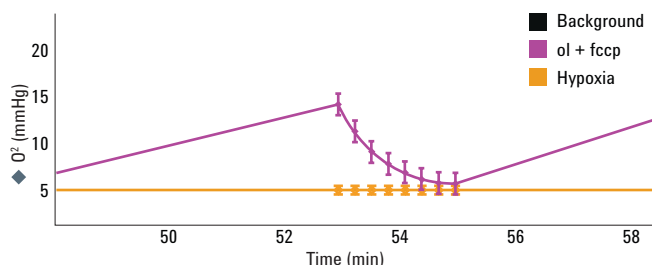

Figure 9. This experimental group well begins to show a nonlinear reduction in the O_2 level during a measurement.
- b. Check experimental group wells for a linear reduction in oxygen. A nonlinear reduction during measurement indicates an anoxic microchamber, as indicated by the purple trace in Figure 9.